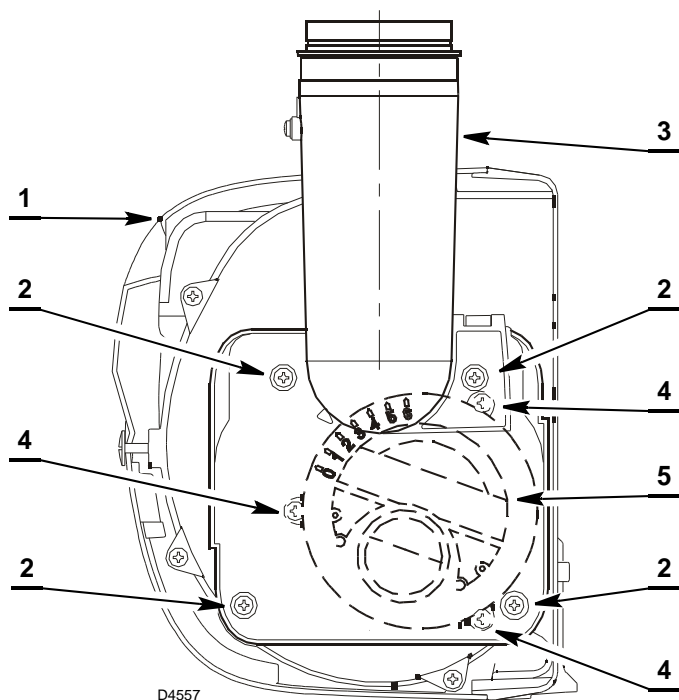

Fig. 24
- remove the cover 1) (Fig. 24) and undo the fixing nuts to the flange and remove the burner;